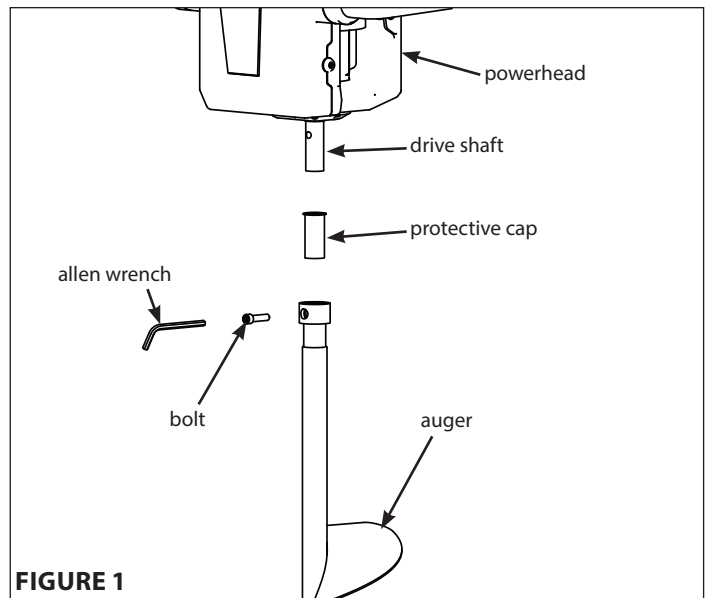

FIGURE 1
3. Remove the protective plastic cap from the drive shaft. Insert the drive shaft of the powerhead into the collar of the auger assembly. **SEE FIGURE 1**